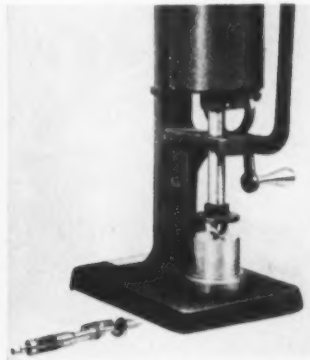

Fig. 2 . . . Influence of rammer foundation is tested by degree of flattening of checking rings by three drops of ram.
2. The special rammer base (Fig. 1) provides a standard reaction to the falling weight regardless of the type of support. This eliminates differences in mounting between laboratories. A test for the net energy of the rammer can be made with calibrated metal rings available from the manufacturer of the sand rammer. The amount these rings should be flattened is predetermined. Their use is illustrated in Fig. 2. A solid